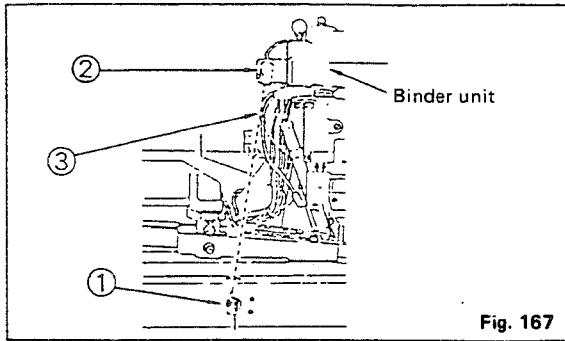
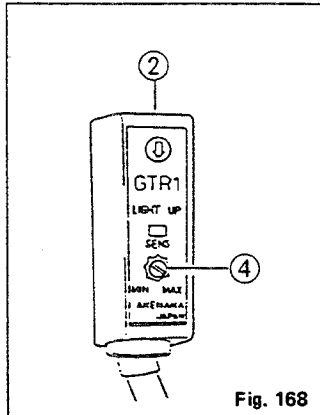

Fig. 167
Fig. 168
Adjust the followings after having ensured the “red” LED lamp of the sensor of ① in Fig. 167 on the light beams emitter side lighted up (actuated).
Make sure that the light beams are not interfered between ① and ② of ③ in Fig. 167, and both the “green” and “red” LED lamps of sensor have lighted up.
- 1) Interfere the light beams between ① and ② in Fig. 167 with a piece of georgette fabric and turn volume knob ④ in Fig. 168 counterclockwise to set at “Minimum”. At this moment both the “green and red” LED lamps go off.